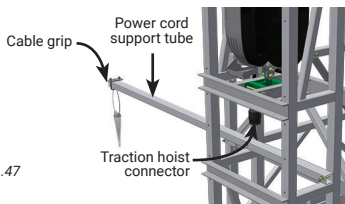

fig. 1.48
- 2- Using a U-bolt assembly, install the cable grip assembly on the support (fig. 1.48), at approximately 6' (1,8 m) from the traction hoist connector inside the car.